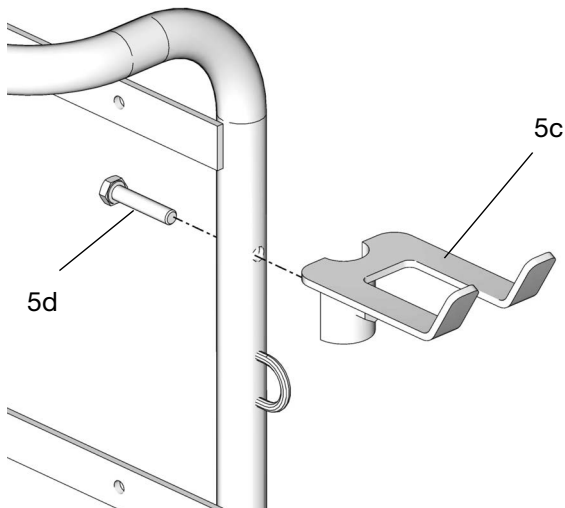

FIG. 32
- Install the meter bracket (5c) to the handle frame with screw (5d) (FIG. 32).